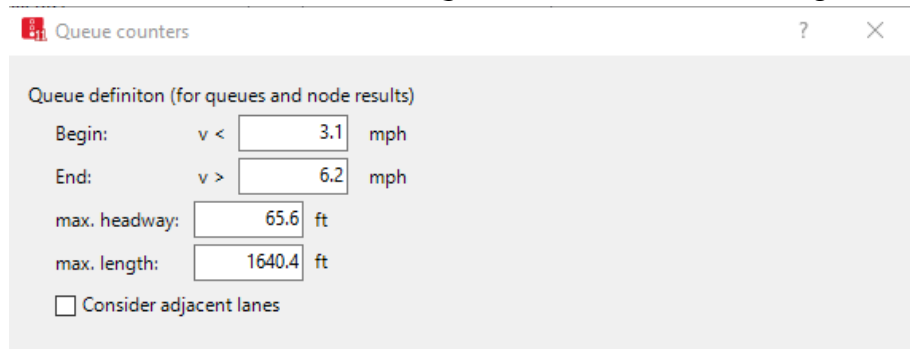

Figure 22: *Queue Counters* Definition
- step iv. Click on *More...* You will see the *Queue counters* definition, Figure 22